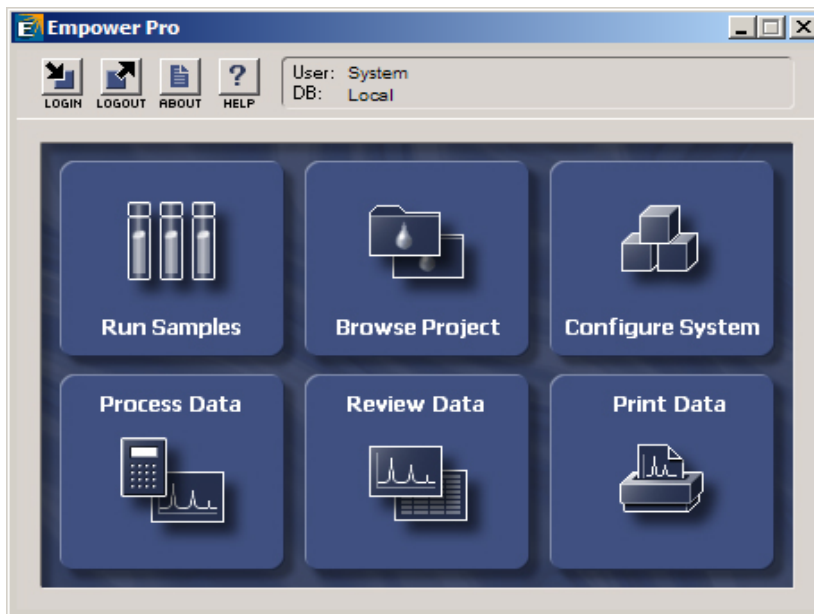
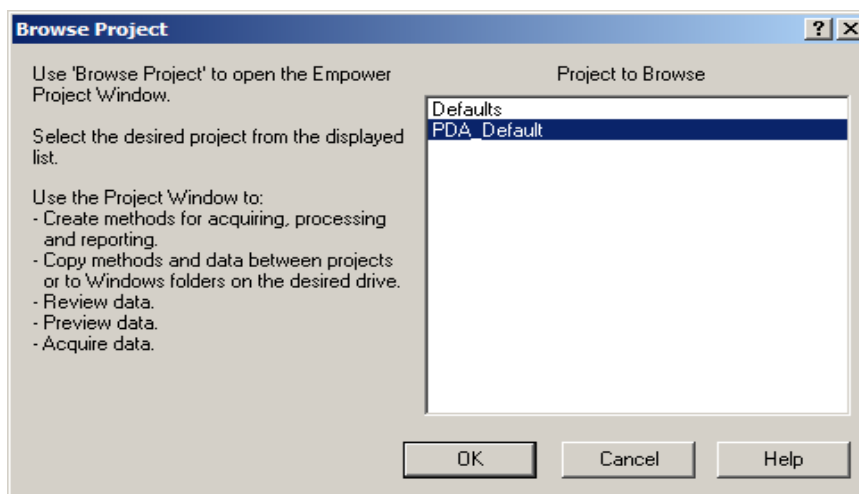

Figure 2-1 Empower Pro Window
Figure 2-2 Browse Project Dialog Box
1. In the Empower Pro window (Figure 2-1), click **Browse Project** to open the Browse Project dialog box (Figure 2-2).